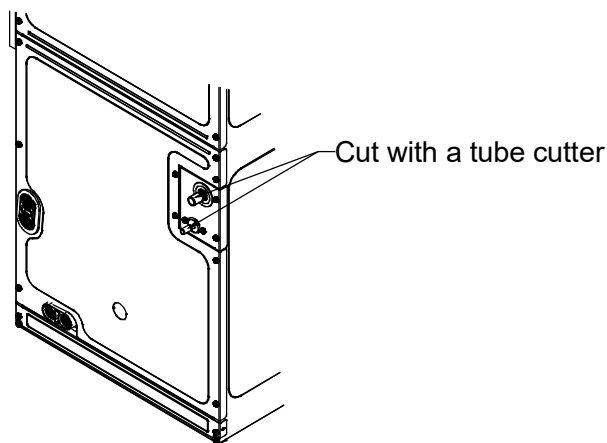

**FIGURE 13**
- Cut off the pipe end with a tube cutter (Both liquid line and gas line). All cut ends are to be round, burr free, and clean. Failure to follow this practice increases the chances for refrigerant leaks. The suction line is spun closed and requires tubing cutters to remove the closed end (See Figure 13).